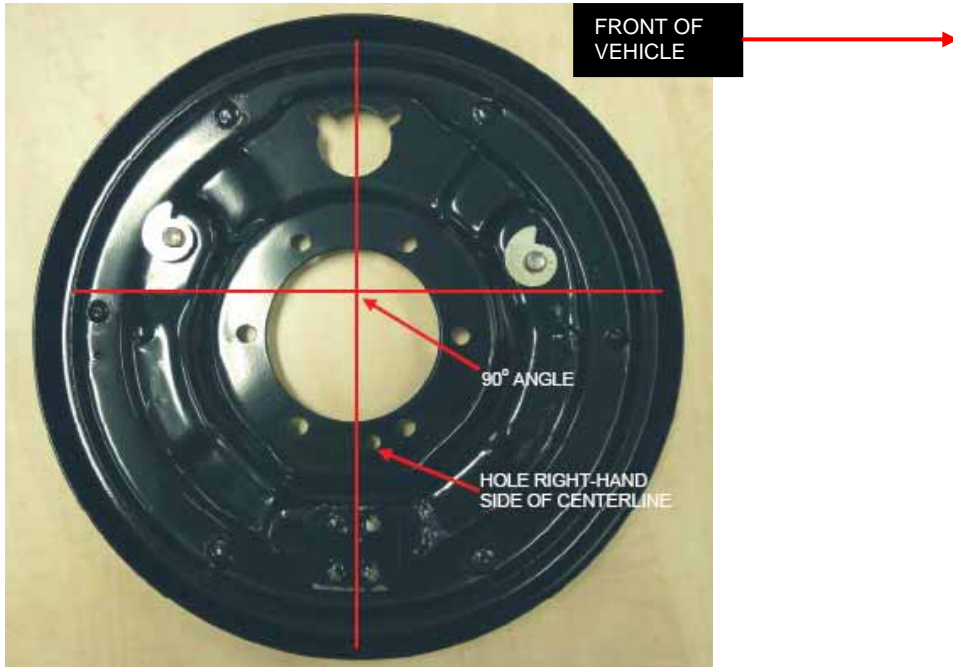

Figure 1 Right-hand Backing Plate
- a. **Right-hand.** The rear (left, as shown) brake adjuster is higher than the front (right, as shown) adjuster (Figure 1). On most backing plates, there is a hole to the right of the centre line near the axle mounting holes.